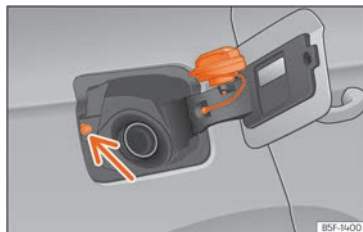

Fig. 221 Fuel tank flap with tank cap attached.
Avoid touching the fuel tank flap lock button » **Fig. 221** (arrow). The system will interpret that you have finished and cannot continue refuelling. Press the  button on the driver's door again to continue.
- Place it in the space on the hinge of the open flap » **Fig. 221**.